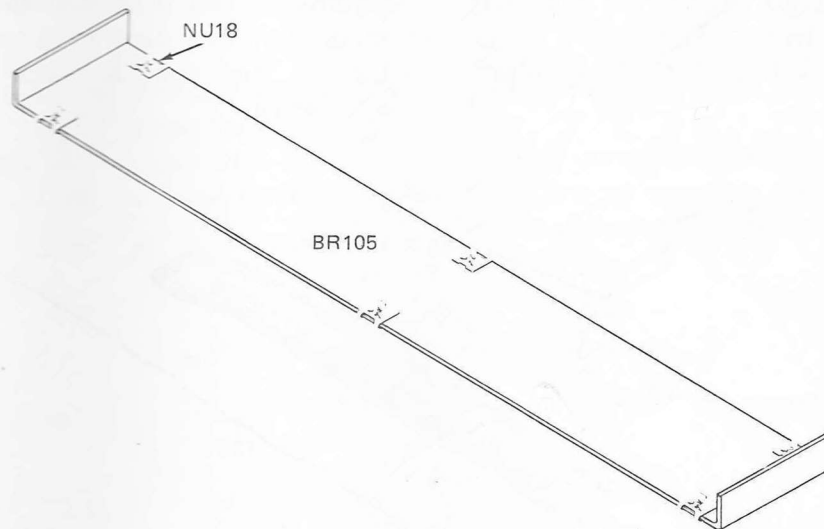

Figure 44. The alignment bracket with six Tinnerman nuts in place.
(1) Apply the four self-sticking plastic feet to one of the top/bottom panels as shown in Fig.44. The plastic feet supplied in your kit may be molded together into a block. To separate them, simply pull them apart with your fingers. To apply them to the bottom of the panel, remove the paper backing, and press the feet into place. This metal piece will now be known as the bottom cabinet. The remaining half will be used as the top of the oscilloscope ()
(2) Now carefully lift the oscilloscope and lower it inside the cabinet bottom ()
(3) Locate the two cabinet alignment brackets (BR105) and mount six Tinnerman nuts on the brackets over the six holes as shown in Fig.44. The raised portion of the Tinnerman nut goes on the inside of the U-shaped brackets ()
(4) Next locate three of the 8-32 black Phillips-head screws. Put the screws through the three